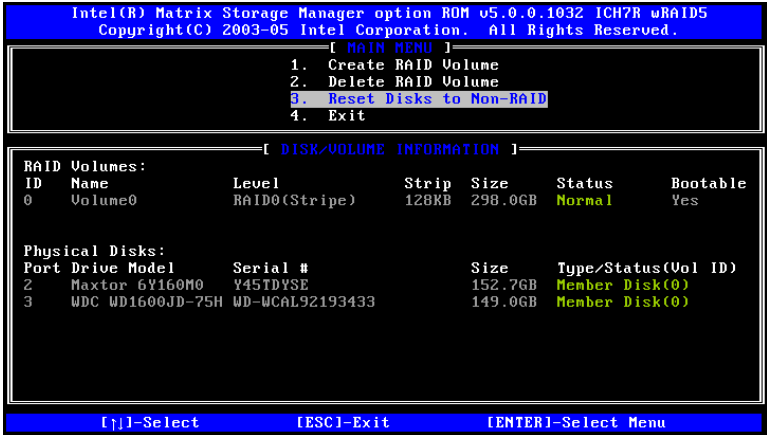

Figure F-12: Reset Disk to Non-RAID Menu
**Step 1:** Select "Reset Disk to Non-RAID." Use the arrow keys to highlight **Reset Disk to Non-RAID** and press **ENTER**. See **Figure F-12**.